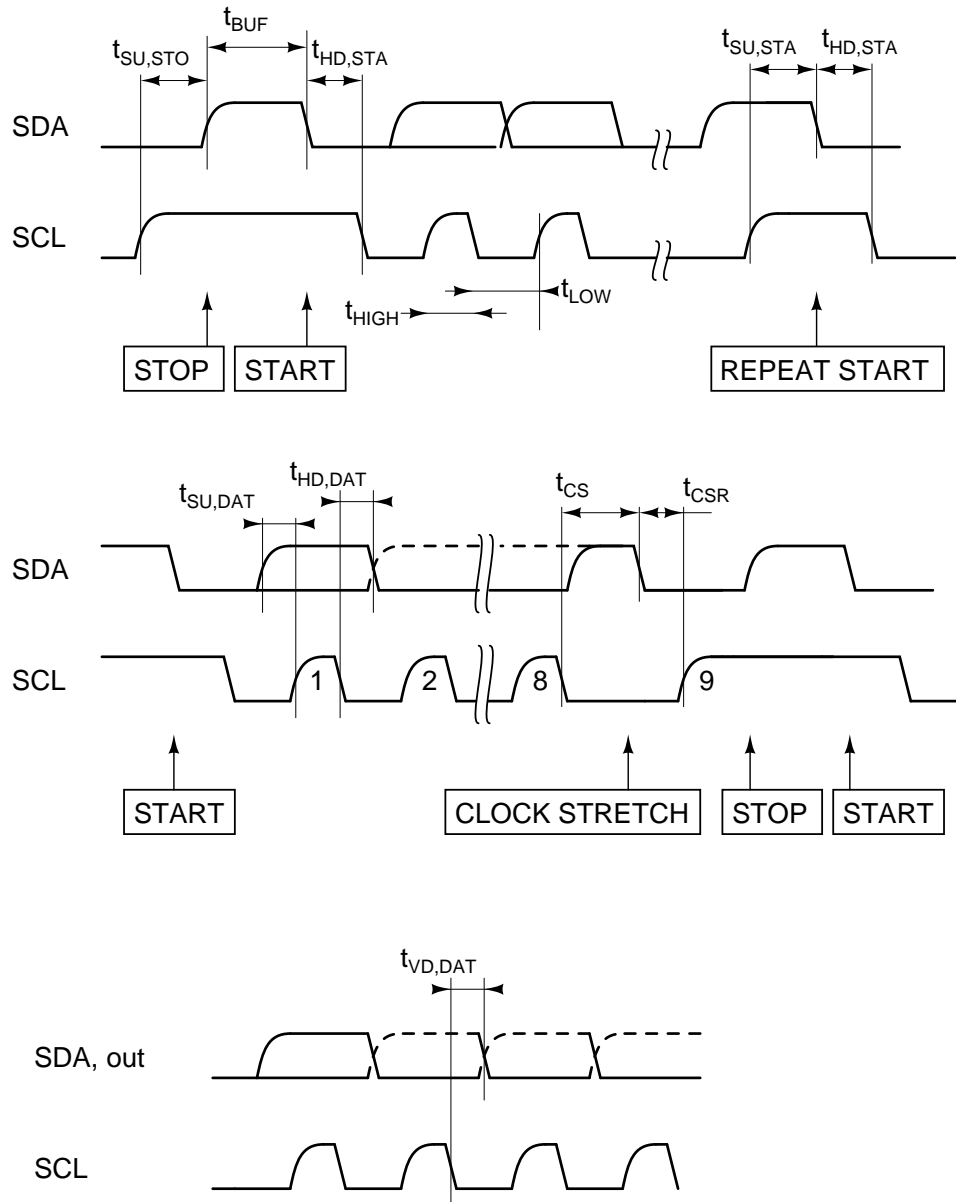

Figure 33: I²C timing example
4. If I2C master can't finish 1byte data in 100ms, I2C slave will restart. Tango C44 operates only as a slave device. The I2C interface is functional in active and sleep modes. In sleep mode, an asynchronous address match detector hardware allows a sleeping Tango C44/C48 to recognize its address and wake up. And The firmware can implements different I2C touch protocols. The timings for example that as table 11 and figure 33.